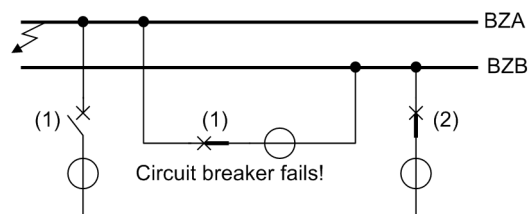

Figure 5-27 Fault on bus zone BZ A and failure of the bus coupler circuit breaker
If a busbar short-circuit occurs with the bus coupler closed (Figure 5-27, page 127), a TRIP command is issued to all related feeders of this zone and to the coupling bay units. (1)